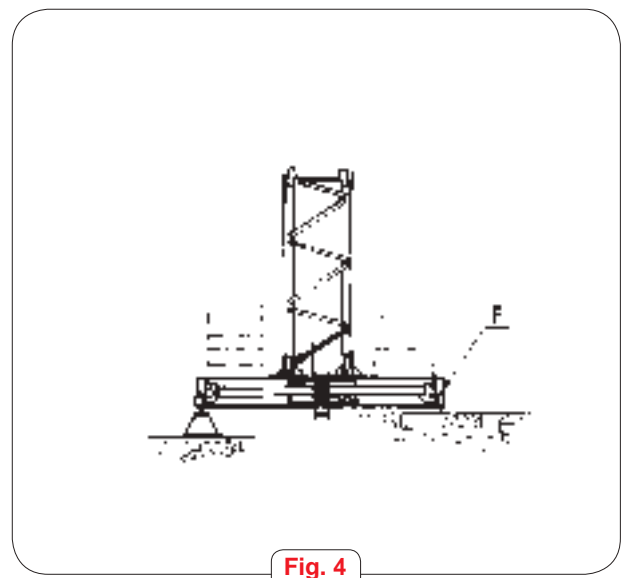

**Fig. 2**
- 2 Remove transport fixing plates and open both arms simultaneously, (to avoid imbalance and possible toppling of base) and immediately position braces A and B. (Fig. 2).
- 3 Fit the con-rods. (B) (Fig. 2).